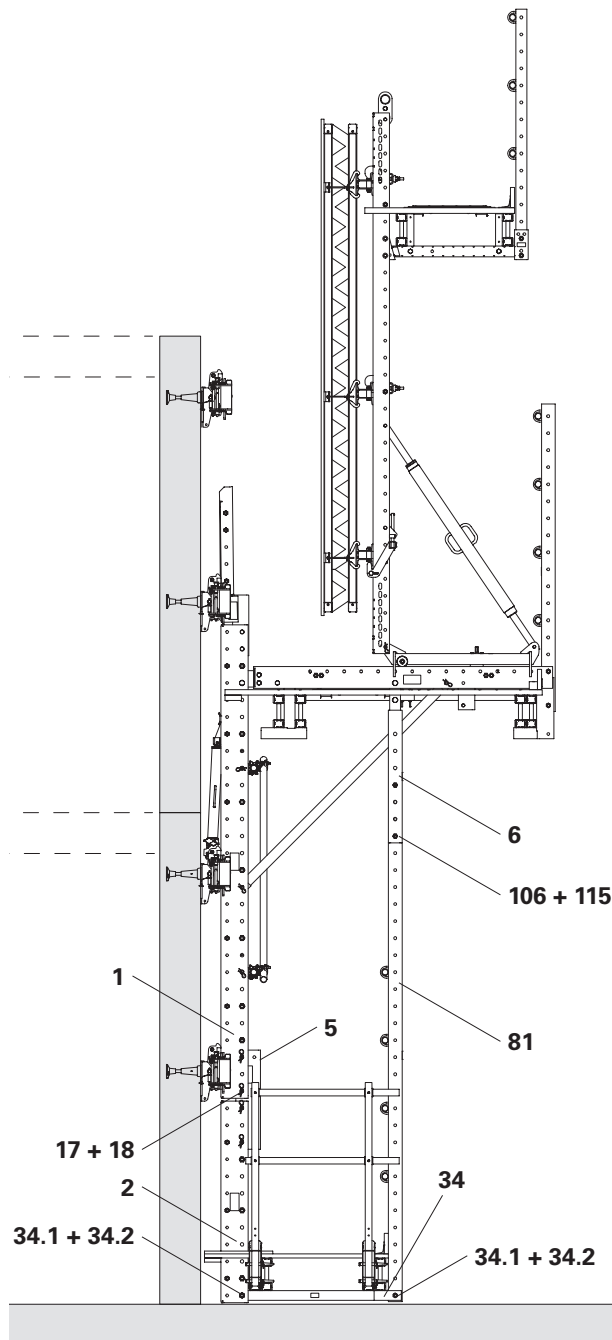

Fig. C4.07
6. Continue the climbing procedure. (Fig. C4.07)